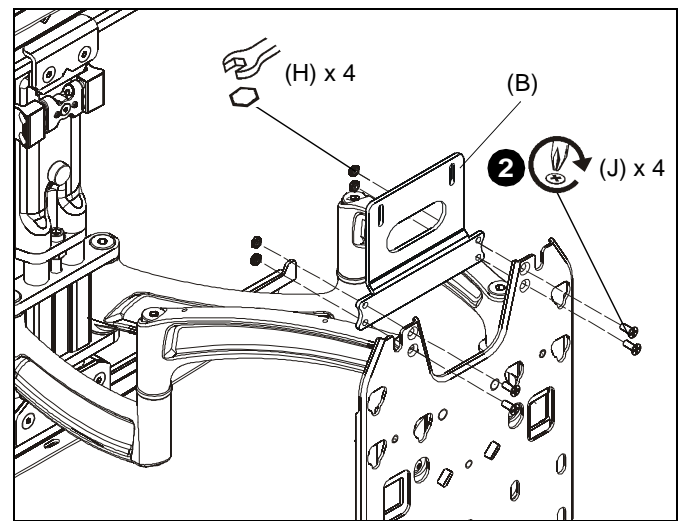

Figure 3
2. Use four #10-24 x 1/2" Phillips flat head cap screws (J) and four #10-24 lock nuts (H) to connect attachment bracket (B) to upper holes on faceplate. (See Figure 3)